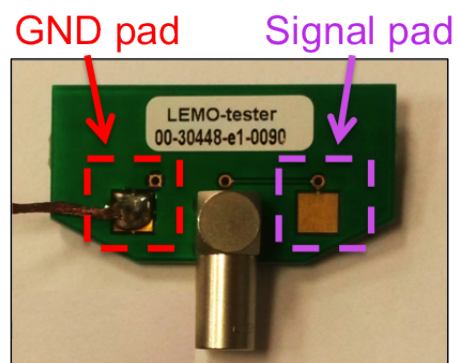

Figure 2.12: QC2 picture of the Panasonic-to-LEMO adapter.
3. Connect the Megger's positive pin on the signal pad of the Panasonic-to-LEMO adapter on the readout sector $i\eta=1$, $i\phi=1$ (Fig. 2.12).